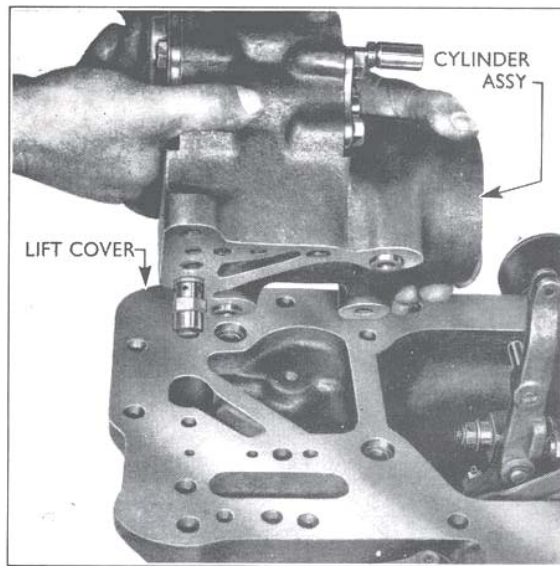

Fig. 19
4. Remove the four set-screws securing the lift cylinder to the lift cover (one of these is recessed into the cover) and withdraw the cylinder from the cover (see Fig. 19). Pull the cylinder straight out from the cover to avoid damaging the safety valve.